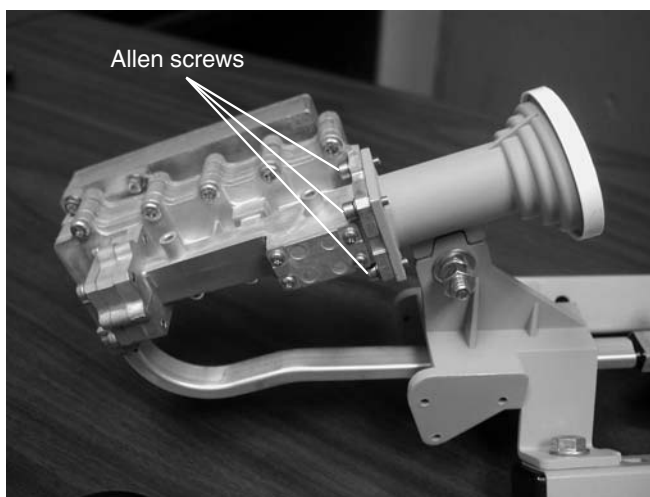

Figure 17: Attaching the radio assembly to the feed horn
8. Hold the feed horn end and the TRIA end together, and insert four M4 Allen screws with lock washers as shown in Figure 17.